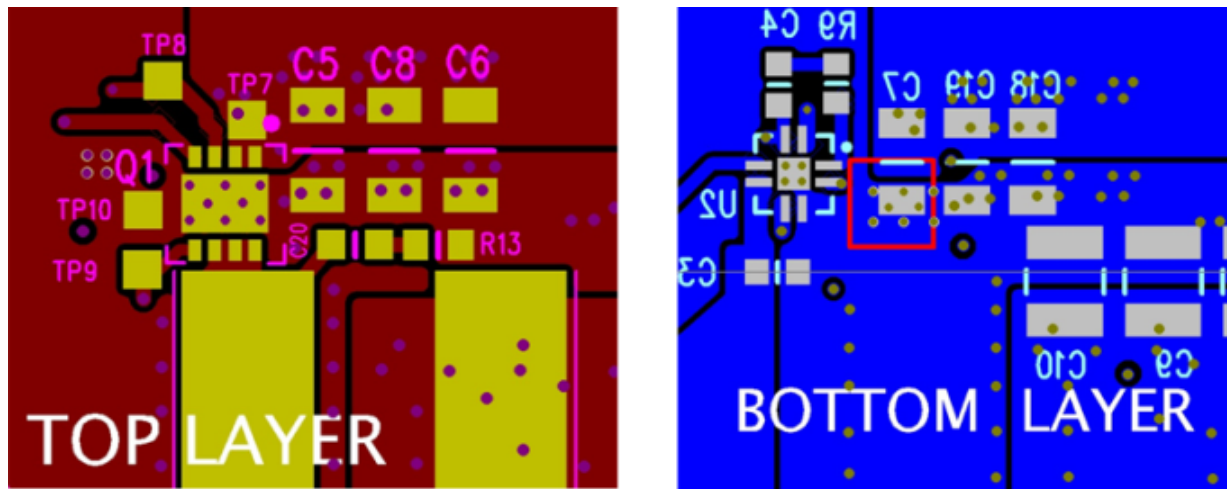

Figure 34. Recommended PCB Layout (Top Down)
- The placement of the input capacitors relative to the Power Block's VIN and PGND pins should have the highest priority during the component placement routine. It is critical to minimize these node lengths. As such, ceramic input capacitors need to be placed as close as possible to the VIN and PGND pins (see Figure 34). The example in Figure 34 uses 6 × 10 μF ceramic capacitors (TDK Part # C3216X5R1C106KT or equivalent). Notice there are ceramic capacitors on both sides of the board with an appropriate amount of vias interconnecting both layers. In terms of priority of placement next to the Power Block, C5, C7, C19, and C8 should follow in order.
- The switching node of the output inductor should be placed relatively close to the Power Block VSW pins. Minimizing the node length between these two components will reduce the PCB conduction losses and actually reduce the switching noise level. In the event the switch node waveform exhibits ringing that reaches undesirable levels, the use of a Boost Resistor or RC snubber can be an effective way to easily reduce the peak ring level. The recommended Boost Resistor value will range between 1.0 Ohms to 4.7 Ohms depending on the output characteristics of Driver IC used in conjunction with the Power Block. The RC snubber values can range from 0.5 Ohms to 2.2 Ohms for the R and 330 pF to 2200 pF for the C. Please refer to TI App Note SLUP100 for more details on how to properly tune the RC snubber values. The RC snubber should be placed as close as possible to the Vsw node and PGND (see Figure 34). (1)
(1) Keong W. Kam, David Pommerenke, "EMI Analysis Methods for Synchronous Buck Converter EMI Root Cause Analysis", University of Missouri – Rolla
- Use the smallest drill size allowed in your design. The example in Figure 34 uses vias with a 10 mil drill hole and a 16 mil capture pad.